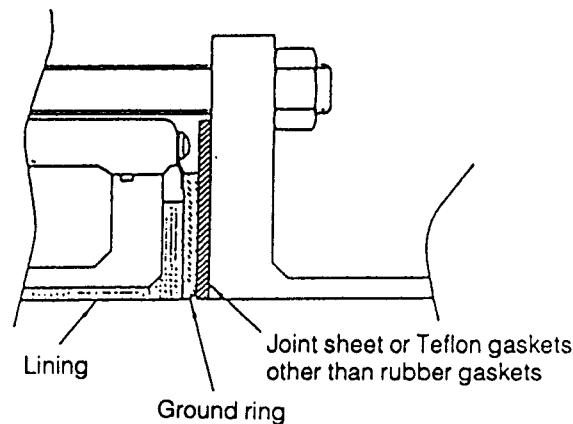

Figure 5-11. Installation onto Metal Piping
Mount the gasket as shown in Figure 5-11 and fasten it with the supplied through bolt and nut employing an adequate torque listed in Table 5.1 to provide a complete seal between the flange and gasket and gasket and wet ring and between the ground ring and lining.
- (1) Support PVC pipings using something like a ladder so that no load should be imposed on the pipings.
- (2) When the PVC pipings may be distorted or damaged, put a metal protection fitting as shown in Figure 5.11 on the face of the PVC flange before fastening.